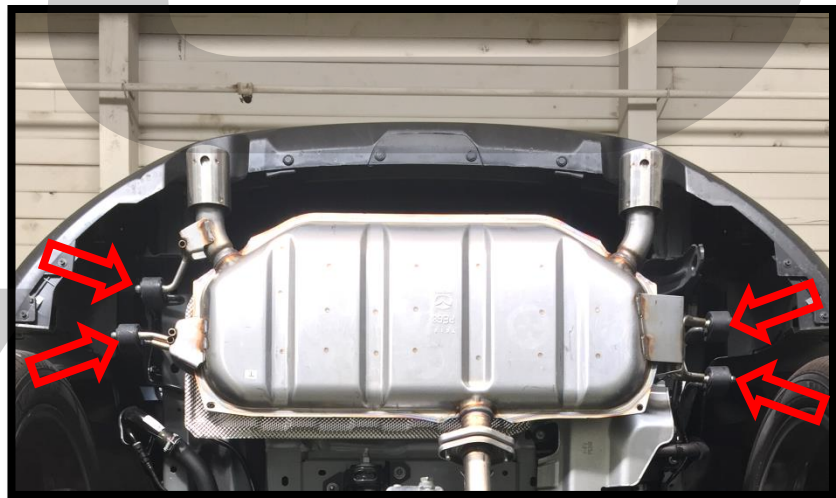

Figure 2b
- b) Remove the exhaust from the four rubber exhaust hangers located on either side of the muffler (shown in **Figure 2b**). Start with one side and remove the exhaust hanger from the rubber hanger. The exhaust will be supported by the other hangers on the opposite side. While supporting the center of the muffler, remove the last two exhaust hangers from the rubber hangers.